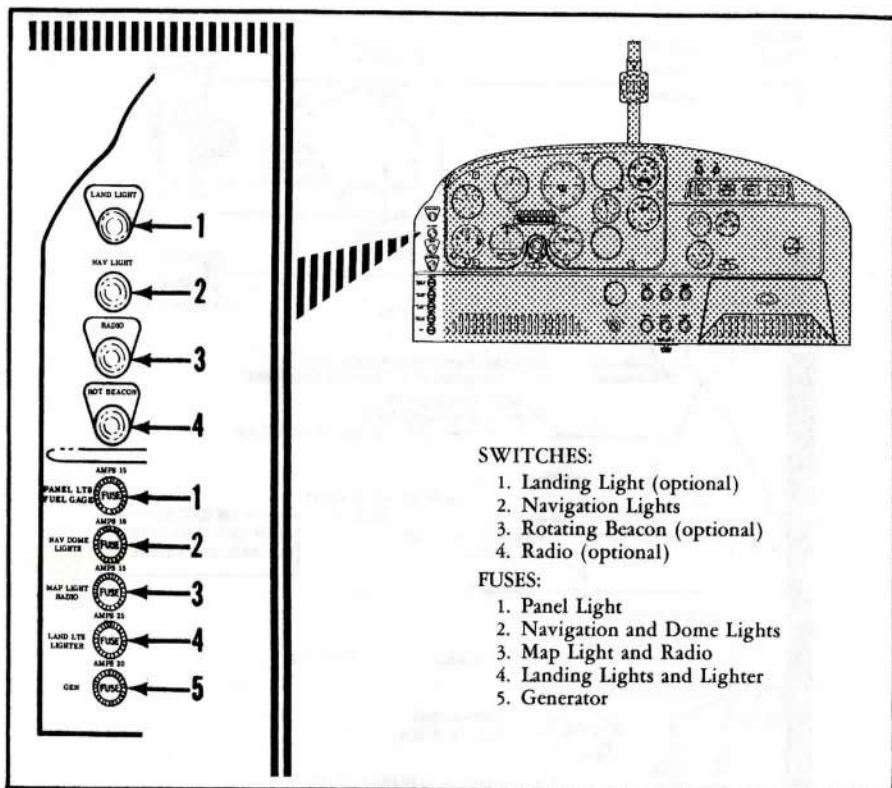

Figure 3. Electrical Controls
1. Fuse and Switch Panels (see figure 3)